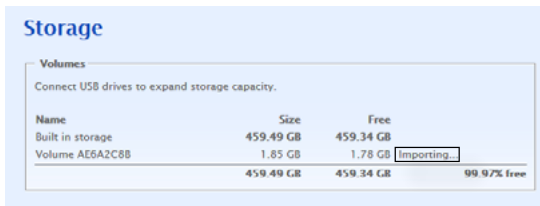

Figure 44
2. Start the import process by clicking on the button “OK, Import the volume”. Refer to figures 44 and 45.